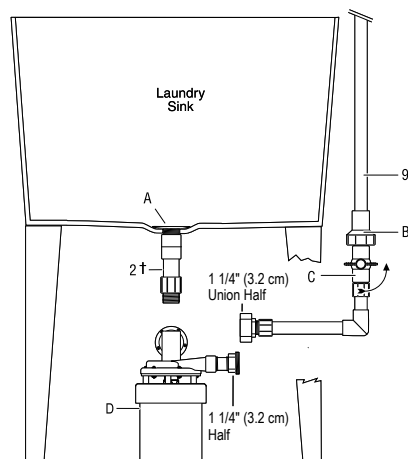

Figure 3: Pump Removal
- Close the discharge ball valve (C).
- Disconnect the union (Part No. 5), unscrew the pump from the sink tail piece, lower the pump to the floor, and slide it out from under the sink (see Figure 3).